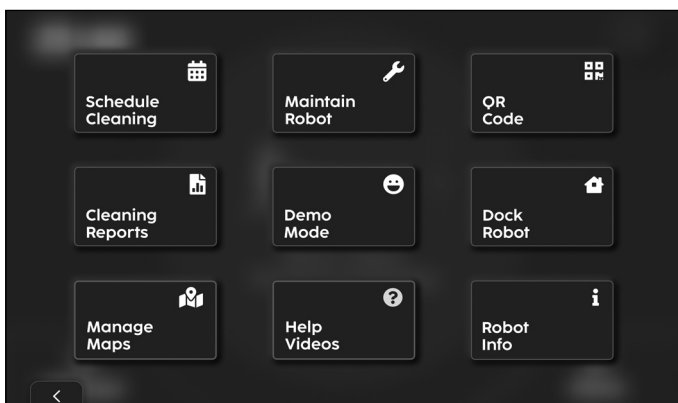

Figure 48
1. From the Home Page, press 'More Options' icon, and select the 'Schedule Cleaning' (**Fig. 48**).